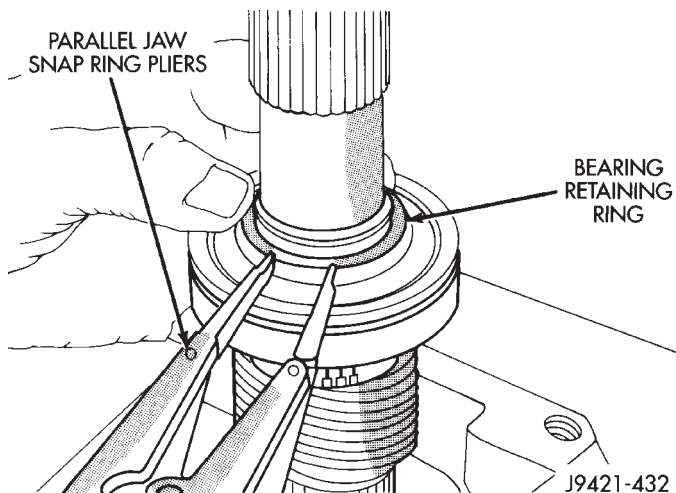

Fig. 67 Output Bearing Retaining Ring Installation
(23) Install output bearing retaining ring (Fig. 67). Use parallel jaw snap ring pliers to install ring.